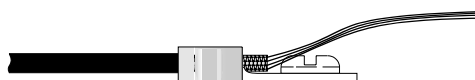

Figure 4b
- Next, crimp the lug on to the cable shield, do not crimp too tight and risk smashing the wires. This could cause them to short to ground. Figure 4b shows a side view of the completed operation after crimping.